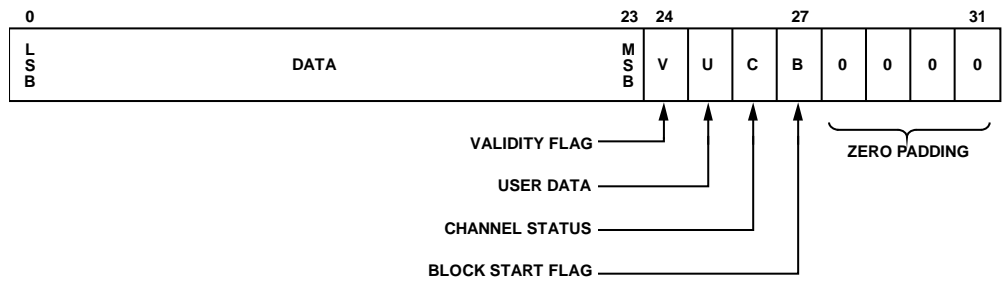
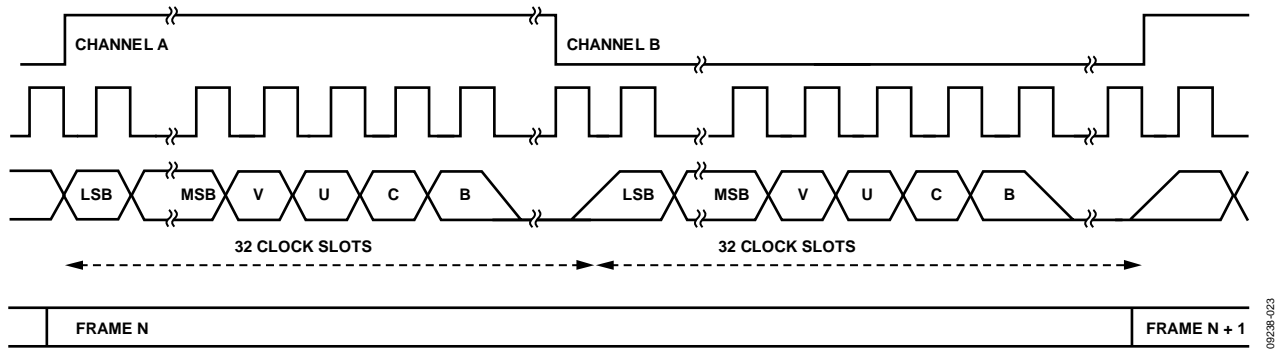

Figure 19. AES3 Subframe Timing Diagram
Figure 20. AES3 Stream Timing Diagram
- An AES3 stream if the I2SOUTMODE[1:0] control is set to 0x3 (refer to Figure 19 and Figure 20). Note that AES3 is also referred to as raw SPDIF. Each AES3 stream may encapsulate stereo L-PCM audio data or multichannel non L-PCM audio data (for example, 5.1 Dolby Digital).